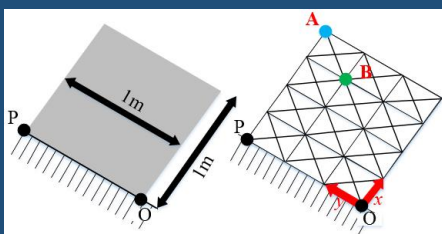
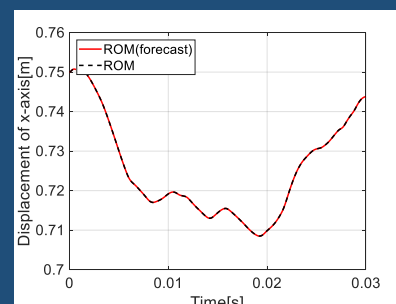

Fig.2 Simple model
Fig.3 Comparison of displacement in Node B of ROM and ROM with forecasting
- We applied this method to simple model assuming space structure(Fig.2) and found that ROM which forecast the valid initial value of Newton method shows almost no error behavior for ROM(Fig.3). So, we compared the total number of iterative calculations in full model, ROM, and ROM with forecasting the valid initial value and found that the number of iterative calculations decreases by reducing the spatial complexity, and furthermore, by reducing the time complexity, **it can be reduced by about 50%.**